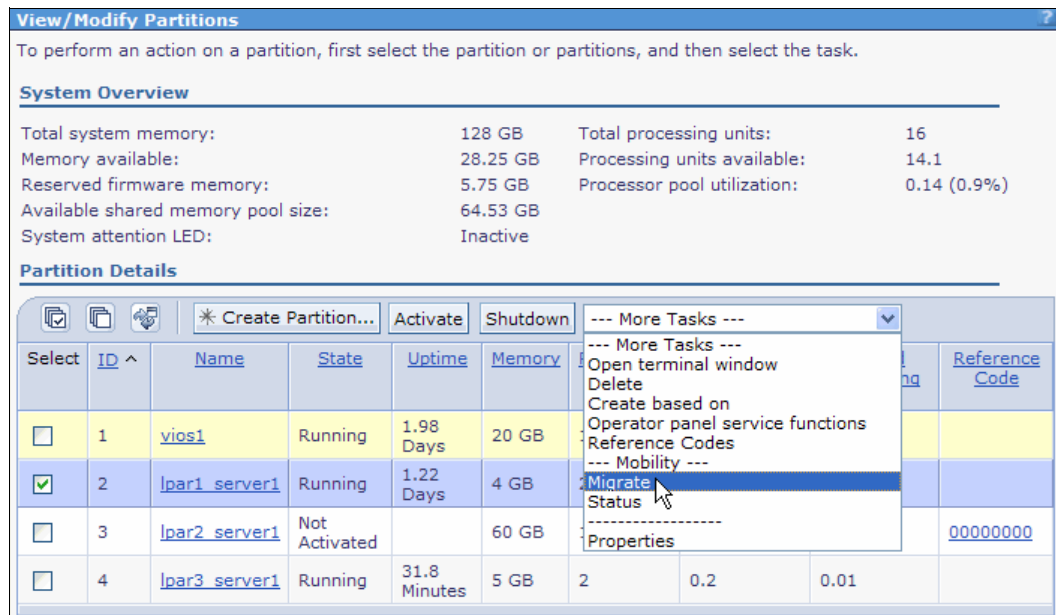

Figure 4-77 Migrate option for selected LPAR on More Tasks in the View/Modify Partitions panel
2. On the **More Tasks** drop-down menu, select **Migrate** (Figure 4-77).